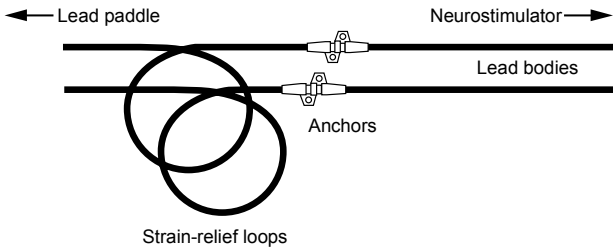

Figure 6. Strain-relief loops made with the lead bodies (no connector boots).
1. While maintaining lead position, create a strain-relief loop with each of the lead bodies, by coiling the lead bodies near the lead paddle (Figure 6).